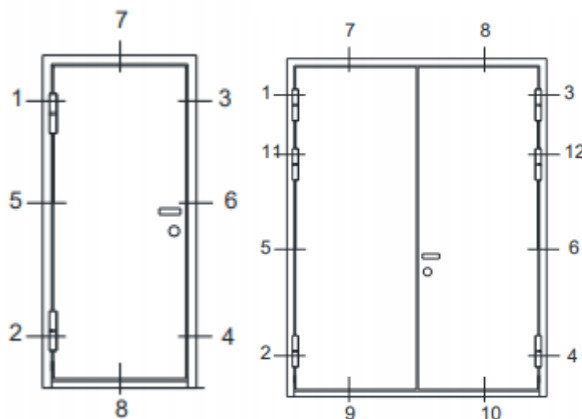
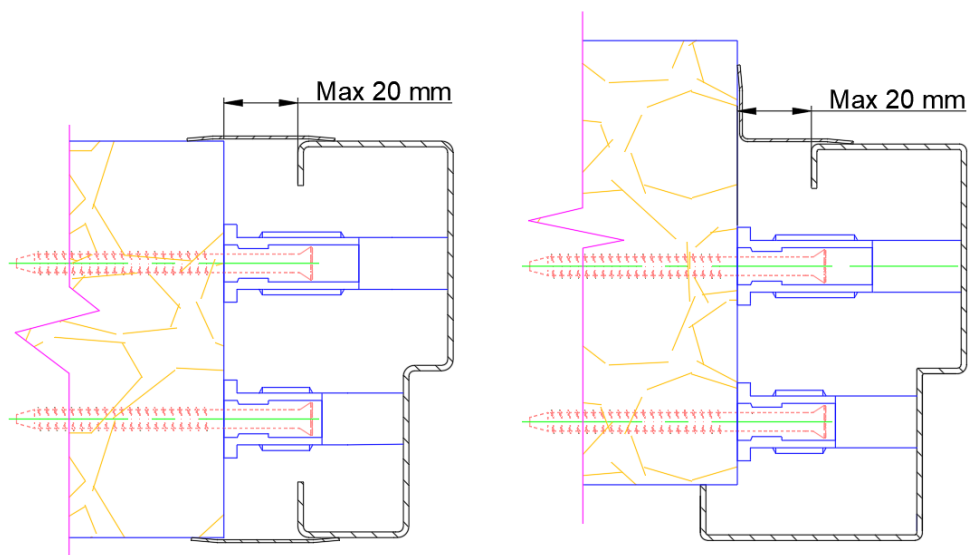

Figure 1. Mounting points of the jambs
Figure 2. Mounting of the jambs with sleeves
4. Level the hinge side of the jamb and start mounting the jamb from the mounting holes 1, 2, and 3 (Figure 1). Adjust the sleeves against the support surface (Figure 2). The maximum